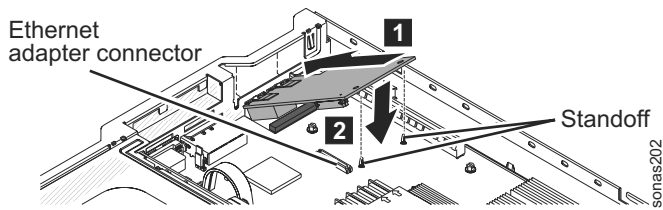

Figure 16. Aligning the Ethernet adapter port connectors with the port openings
10. Align the adapter with the adapter connector on the system board; then, tilt the adapter so that the port connectors on the adapter line up with the port openings on the chassis. See Figure 16 on page 116.